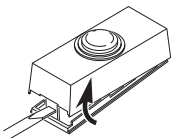

Figure 1
1. **Remove orange battery tab from push button.** Remove back of case by pushing in tab on bottom with a small screwdriver (see Figure 1). Remove orange battery tab.
- **Screw Mounting:** To mount with screws, remove back of case by pushing in tab on bottom with a small screwdriver (see Figure 1). *Note:* Remove material in screw holes (if needed) before mounting with screws. Attach back of case to door jamb or wall (see Figure 8). Snap front of push button on.